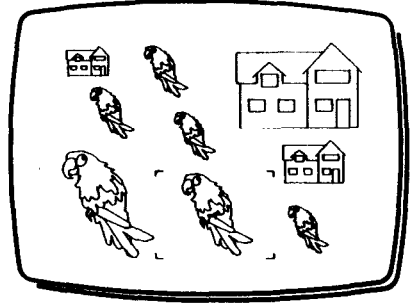

Fig 2
- 3 Press and release T to confirm. The Work Page will re-appear with a flashing frame cursor marking the last library unit planted (Fig 2).